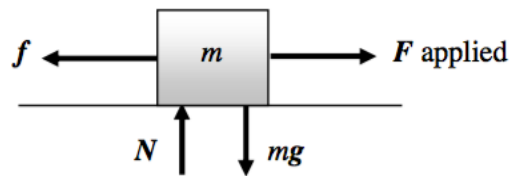

Figure 1: A mass m pulled along a rough surface
1. Set up the equipment as shown in the figure 1